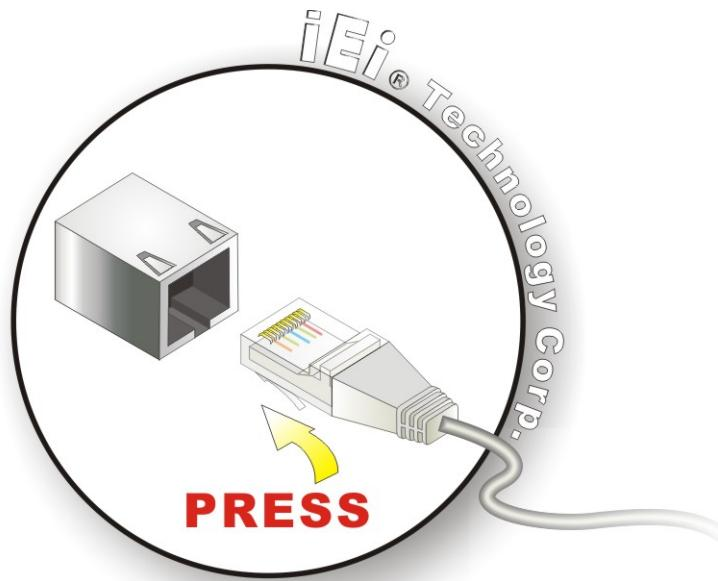

Figure 4-15: LAN Connection
Step 2: Align the connectors. Align the RJ-45 connector on the LAN cable with one of the RJ-45 connectors on the KINO-AH612. See **Figure 4-15**.